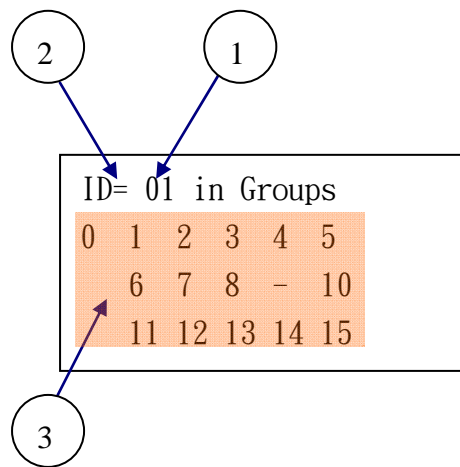

Figure 2.4: The LCD display showing group setting for a target device
Target devices in the DALI system can be controlled in a grouping manner. By using this function, all target devices with the same group in a loop will perform the same operation upon receiving a command. For the DALI system, there are 16 groups available for every target device. The window showing group setting for a target device is illustrated in Figure 2.4. Just move the cursor to the appropriate object arrowed by the circled number in Figure 2.4. The functions of the objects arrowed by the circled numbers are described below in the items with corresponding numbers.
- (1) Select ID number (0~63) of the target device.
- (2) Press the “OK” button. You can read the group parameters of the target device with ID determined from position ① in Figure 2.4.
- (3) Establish the relation among the groups and the target devices. Note that there are 16 groups available for every target device. If the position which represents the relation between a group and a target device is indicated as “-”, then the target device does not lie in this group.
The data shown in Figure 2.4 describes the case that target device with ID number 01 will execute the group command emitted by 14 groups, with group number from 0-8 and 0-15, except group 9.
Note that when the cursor is located at any position indicated in Figure 2.4, the present value of the corresponding parameter can be written into the target device by pressing the “write” button ⑦ in Figure 1.1.